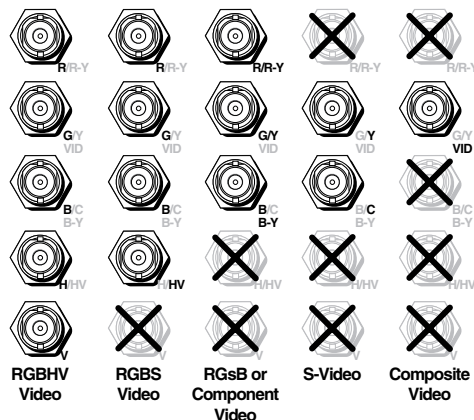

Figure 2-5 — Input connections for various video formats
- ⑤ **Video input connectors** — Connect computer or RGB video, component video, S-video, or composite video to any of the eight sets of 5 female BNC connectors. See figure 2-5 for the relevant connector positions used in each video format.